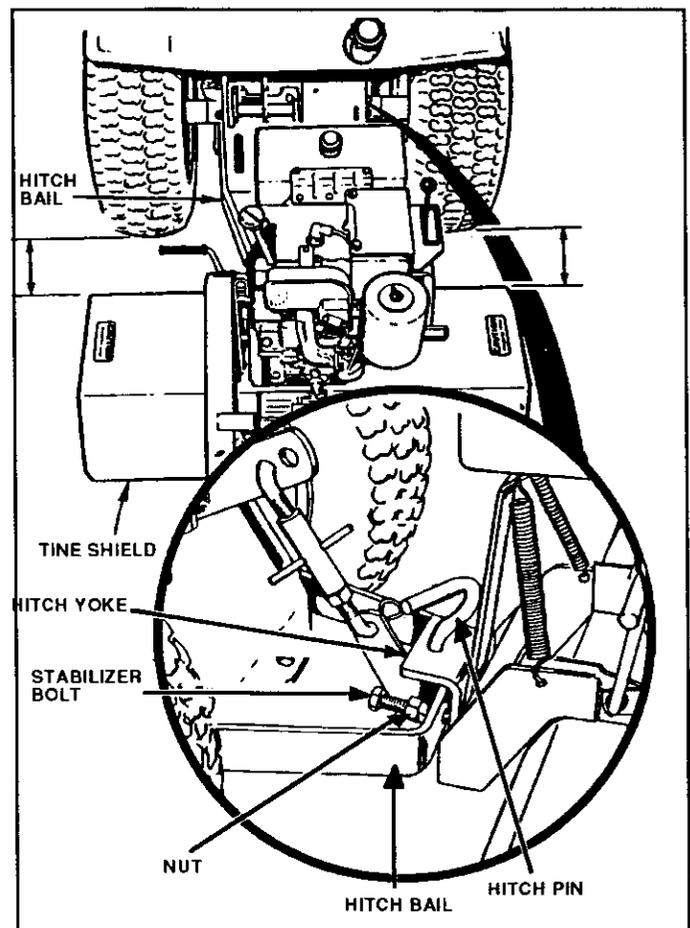

FIG. 2
- Adjust stabilizer bolts so that ends are about flush with rear of hitch bail (Fig. 2 - Inset). Leave nuts loose.
- Lower hitch assembly and slide hitch yoke of tiller (Fig. 2 - Inset) over hitch tube of sleeve hitch so that the hitch pin holes line up.
- Insert hitch pin until it extends from bottom of hitch yoke (Fig. 2 - Inset). Insert retainer spring into hitch pin.
- Tighten both stabilizer bolts against the hitch yoke until there is no looseness at the hitch point. (The frame assembly does not swing sideways relative to the hitch bail (Fig. 2). Be sure the frame assembly is perpendicular (square) to the centerline (direction of travel) of the tractor. This can be determined by measuring the distance between the edge of the tine shield (Fig. 2) and the back of the rear tires. This distance should be the same on the R.H. and L.H. sides within 1/2 inch. Securely tighten the nuts on the stabilizer bolts.
NOTE: The stabilizer bolts should be loosened before removing the tiller from the tractor. This will make it easier to remove the hitch pin and to line up hitch pin holes when installing another attachment. If tractor is to be used without a rear attachment, the stabilizer bolt should be secured by tightening the nuts (Fig. 2-Inset).